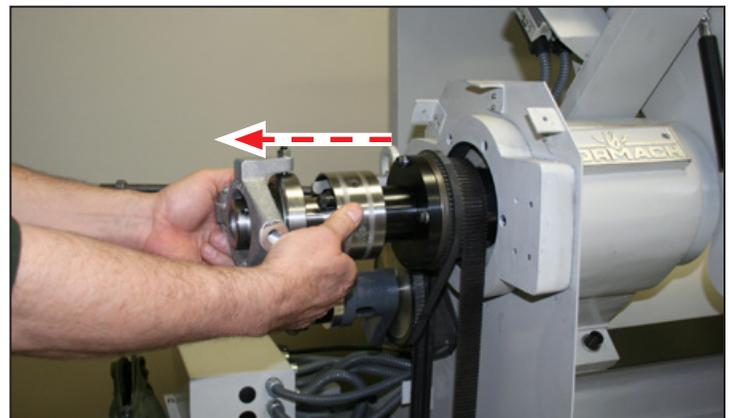

Figure 21
27. Temporarily remove Collet Closer from lathe spindle assembly (see **Figure 21**).